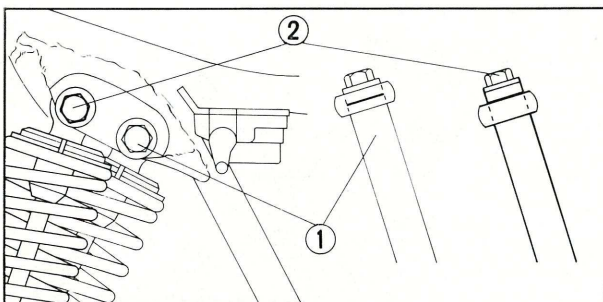

Fig. 2-31 ① Standard position
3. Attach front fork at the position as in Fig. 2-31.